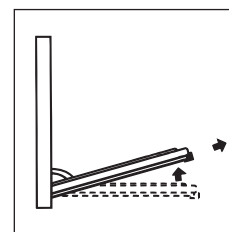

FIG. 3
- Now, shutting the door slightly, you can lift it out by pulling out the hooks "A" as shown in figure 3.